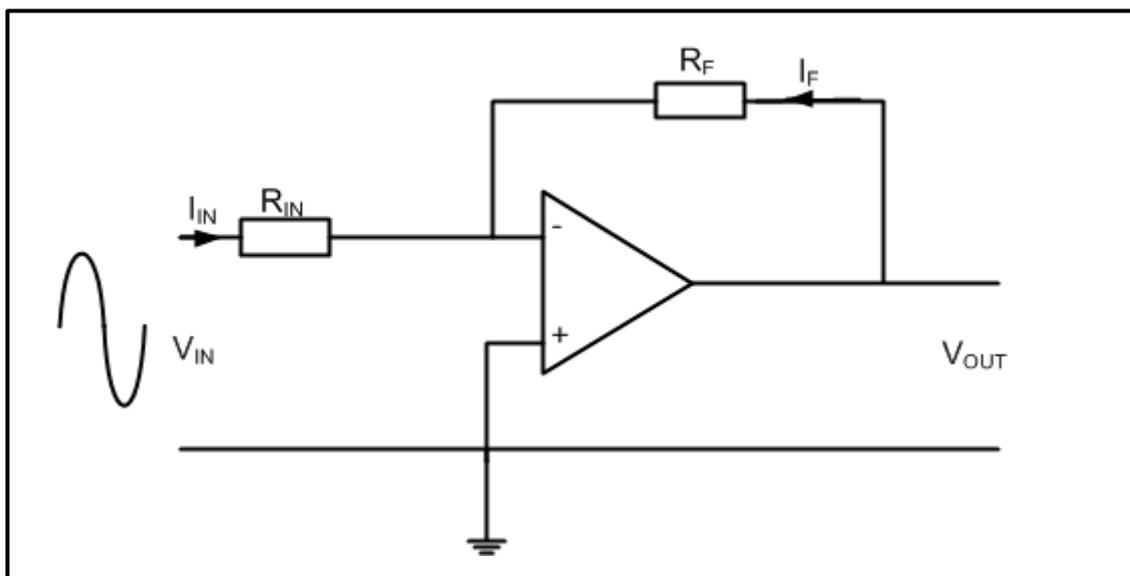

FIGURE 7.2: OP-AMP CIRCUIT
- 7.7 Refer to FIGURE 7.2 and answer the questions that follow.